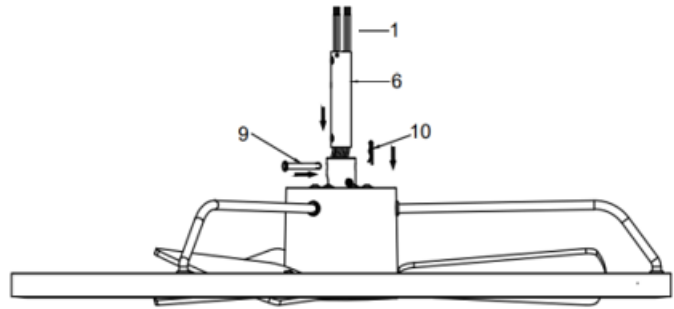

Fig. 6.3
3. Carefully feed the fan wires (1) up through the down rod (6). (fig. 6.3)
4. Assemble the down rod (6) into the coupler (8), by inserting and line up the coupler holes with the down rod holes and insert the hitch pin (9) and secure with the lock clip (10). (Fig. 6.3)